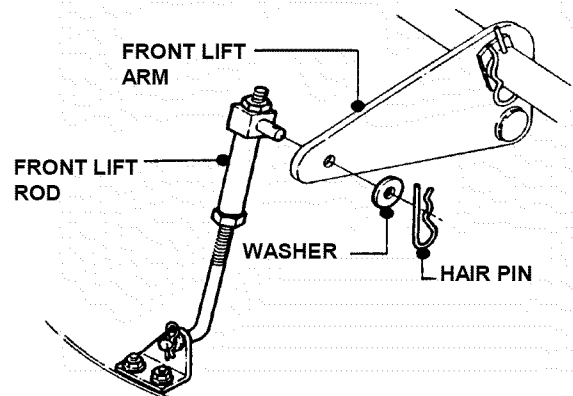

FIGURE 4.28
4. Disconnect the deck lift rod from the front lift arm. See Figure 4.28.